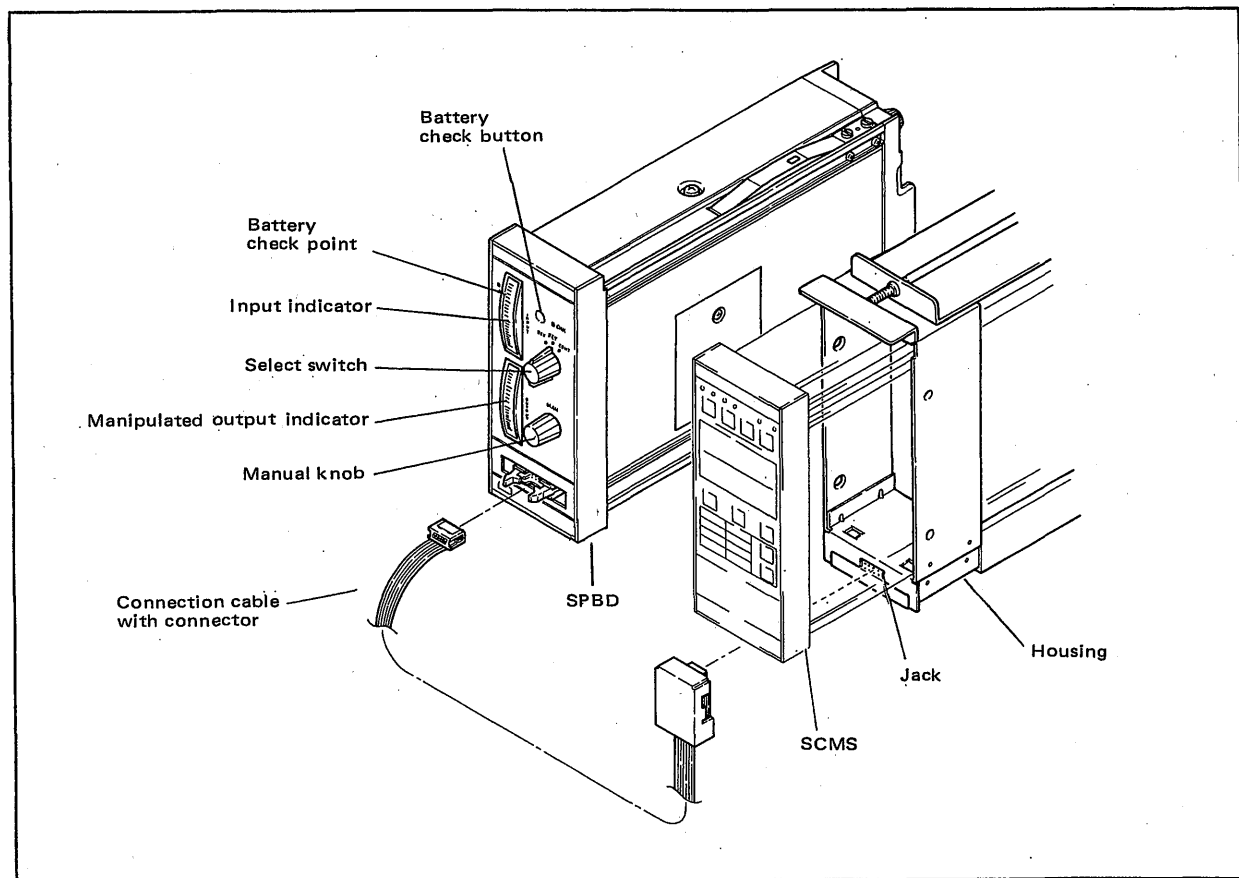

Figure 5-4-1. Connection to SPBD.
- (1) Connect the cable attached to the standby manual station SPBD to the jack at the bottom of the housing front to switch the current output signal to the SPBD from the SCMS. (See Fig. 5-4-1.)